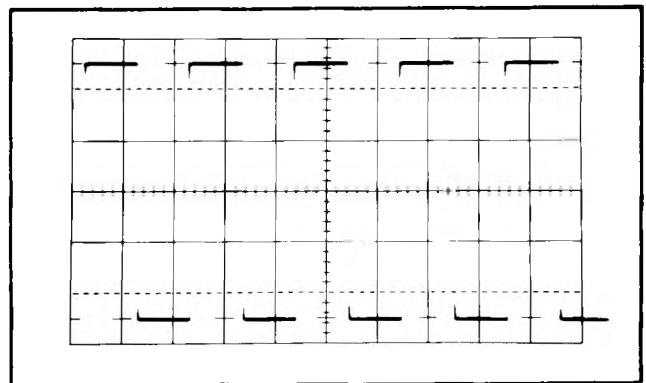

Fig. 5-1. Typical crt display showing correct vertical gain at 10 mV/cm.
- Check—Crt display for exactly 5 cm of deflection (see Fig. 5-1).